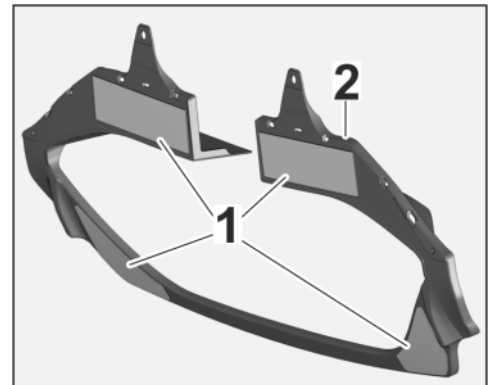

Figure 23
- 4.1.6 Pull protective film (\Rightarrow *Figure 23 -1-*) off the reinforcement (\Rightarrow *Figure 23-2-*).